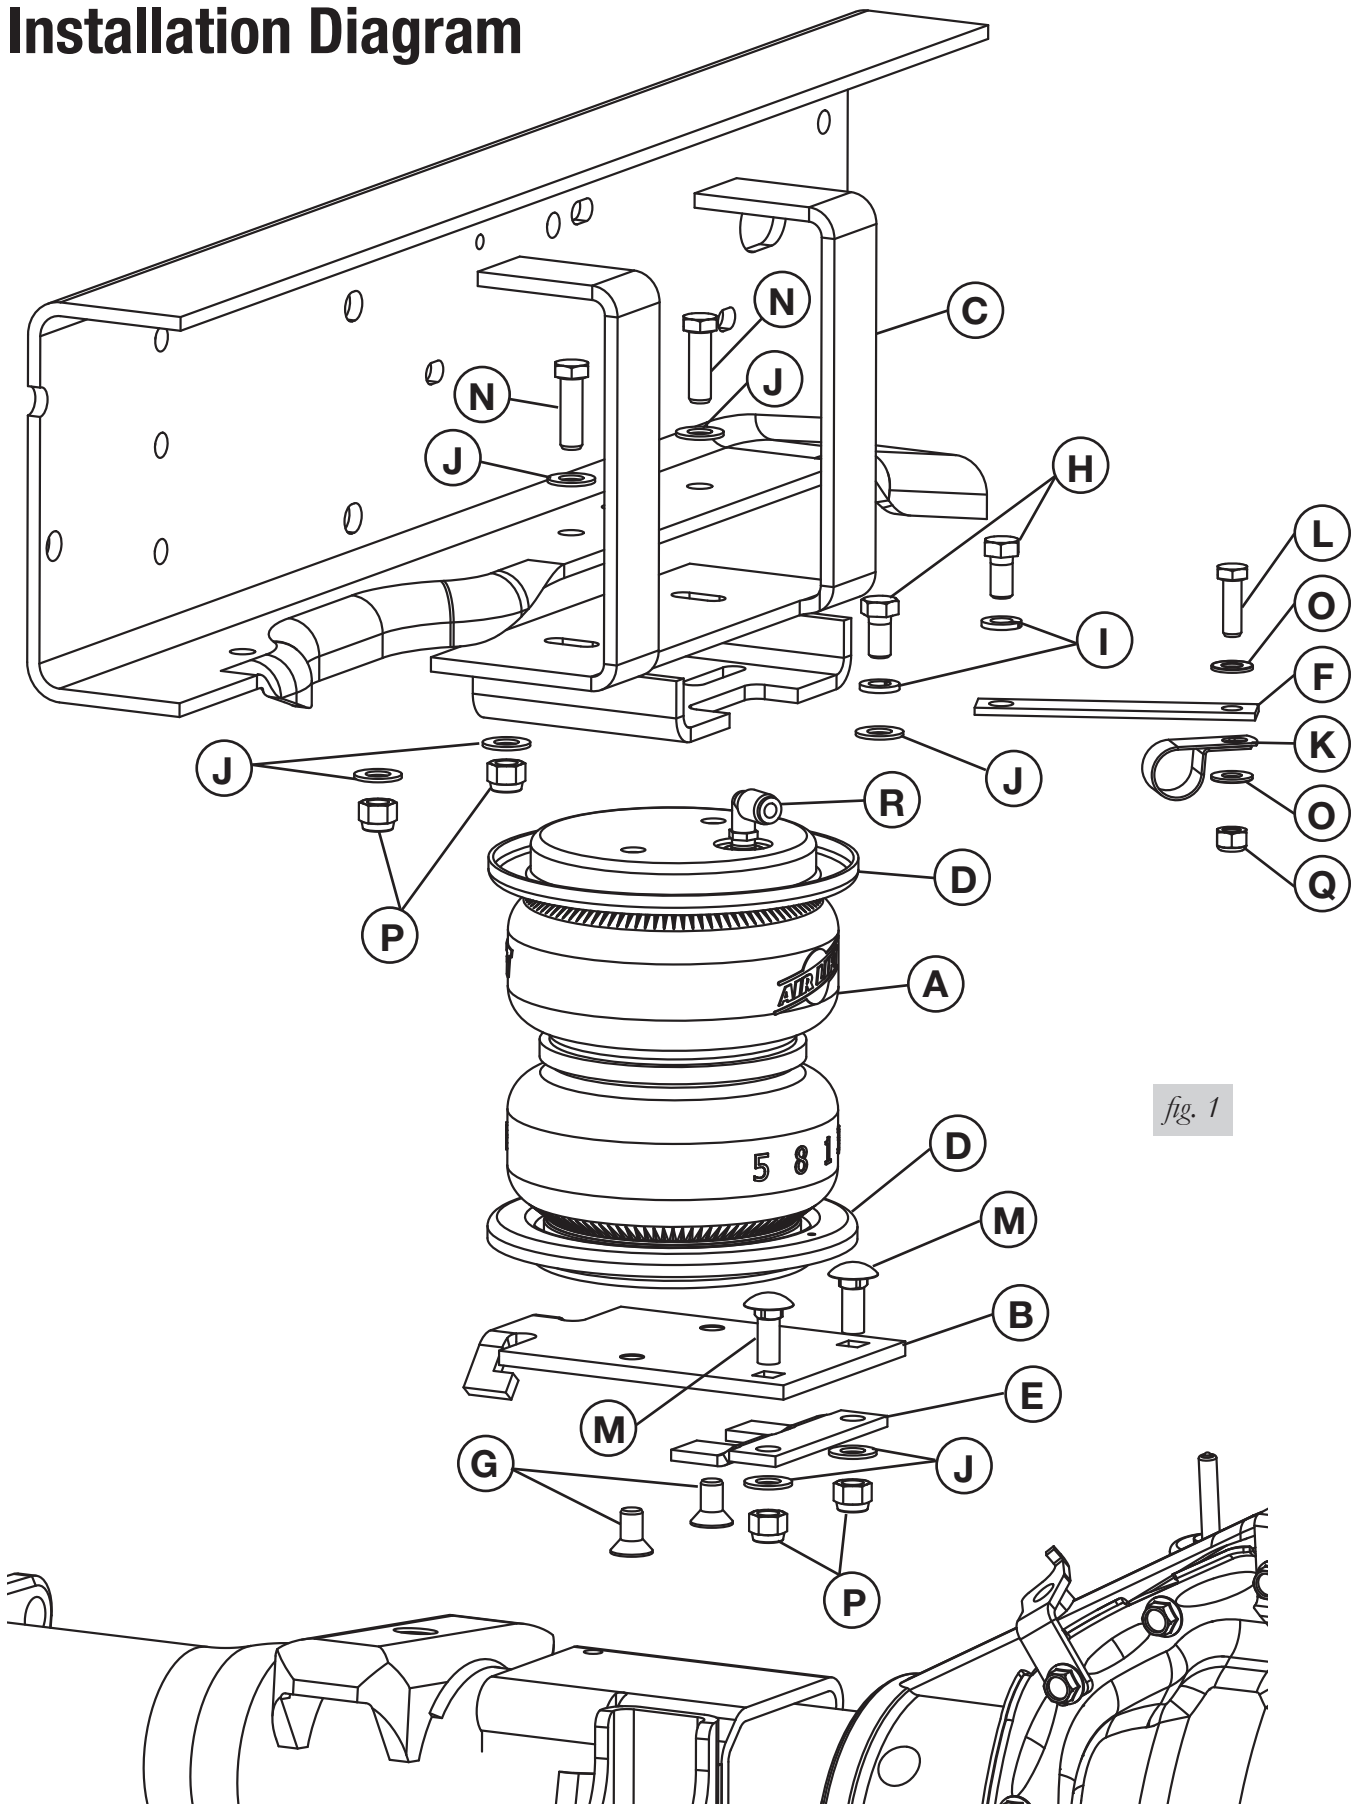

fig. 1
1. Set the roll plates (D) on both sides of the Bellows (A). The radius (rounded edge) of the roll plate will be towards the air spring, so both ends are seated in both roll plates (Fig. 1).
2. Install the 90° swivel elbow fitting (R) to the top of the bellows (A). Tighten finger tight plus 1 and a 1/2 turns. Be careful to only tighten on the hex nut. Do not over tighten.